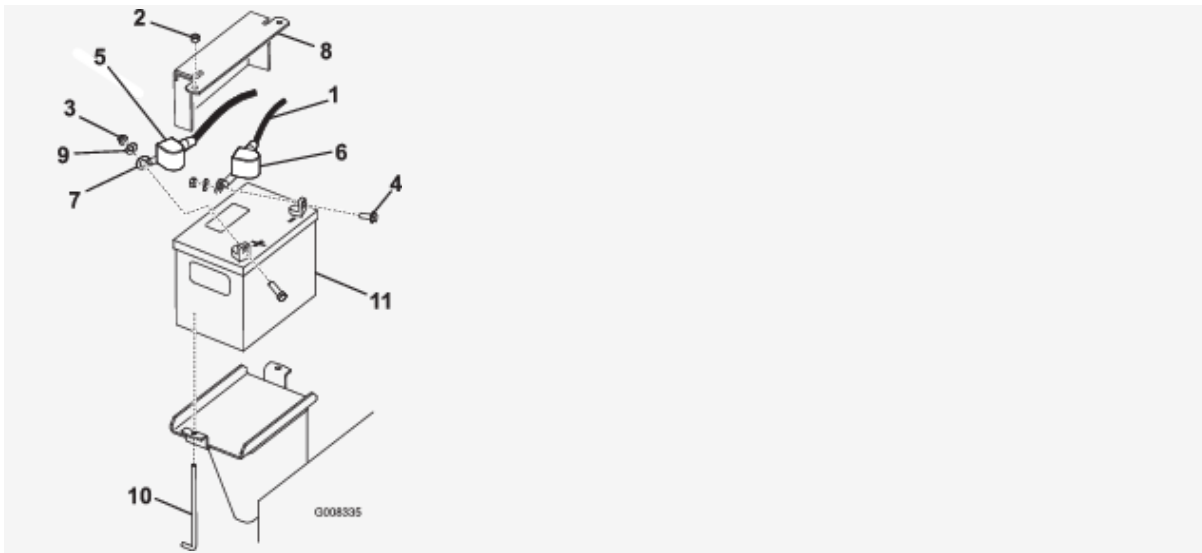

Figure 49
3. Lift the black rubber cover on the negative cable. Disconnect the negative battery cable from the negative (-) battery terminal (Figure 49).
4. Slide the red terminal boot off the positive (red) battery terminal. Then remove the positive (red) battery cable (Figure 49).
5. Remove the hold-down plate, J-bolts, and locknuts securing the battery (Figure 49). Remove the battery.
1. Using the fasteners previously removed, install the positive (red) battery cable to the positive (+) battery terminal (Figure 49).
3. Using the fasteners previously removed, install the negative (black) battery cable to the negative (-) battery terminal (Figure 49).
4. Secure the battery using the bar and wing nuts (Figure 49).